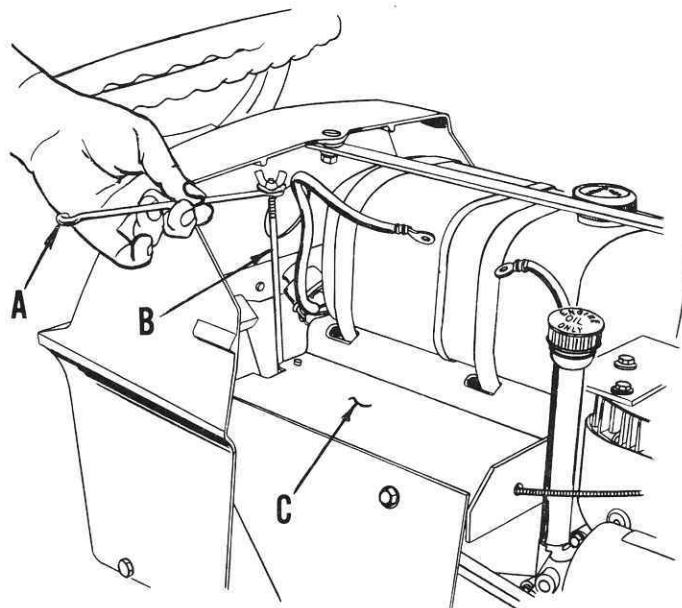
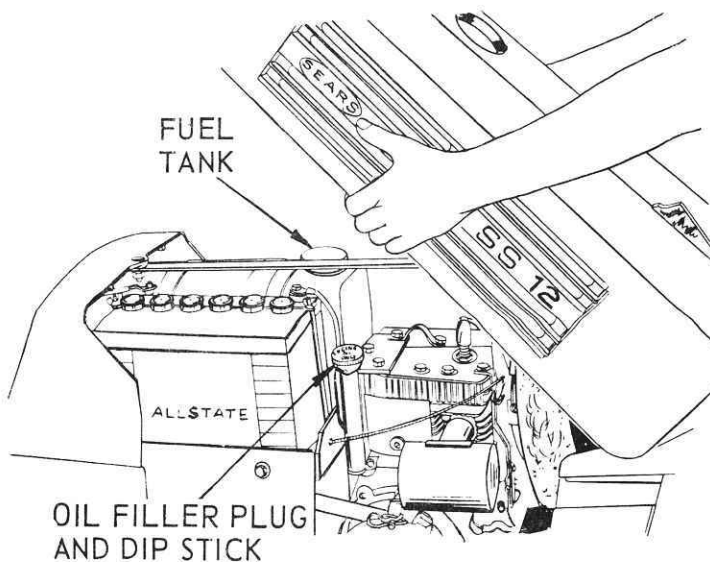

FIG. 3
FIG. 8
2. Lift cowling, refer to Fig. 8. Assemble clamp (A), to one of two battery bolts (B). Flat washer and wing nut above clamp as shown in Fig. 3. Hook the bolt into rear of battery support (C), and turn clamp to the side as shown to allow positioning of battery. Bolt, clamp, washer and wing nut shipped in plastic bag located beneath cowling. Battery installation continued on page 6.
Steps 5, 6 and 7 refer to Fig. 8.